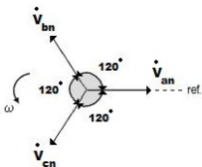

Figure 13 - ACB sense of rotation
2. If reading 2 is higher than reading 1, the phases' sense of rotation will be according to figure 13: